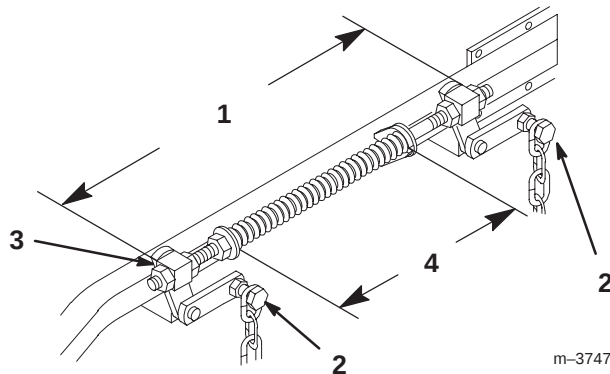

Figure 62
6. Loosen four (4) top chain bolts in slots. Check the length of the rod/swivel assemblies. Distance from outside of rear swivel to outside of front swivel should be 19-17/32 inch (496 mm) (Fig. 62). Make sure that all four swivels move freely in holes.
2. Springs are compressed so the distance between the two large washers should be 10–1/4 inch (260 mm) (Fig. 62).
3. Adjust by turning nut in front of each spring (Fig. 62). Clockwise will shorten spring; counter-clockwise will lengthen spring.